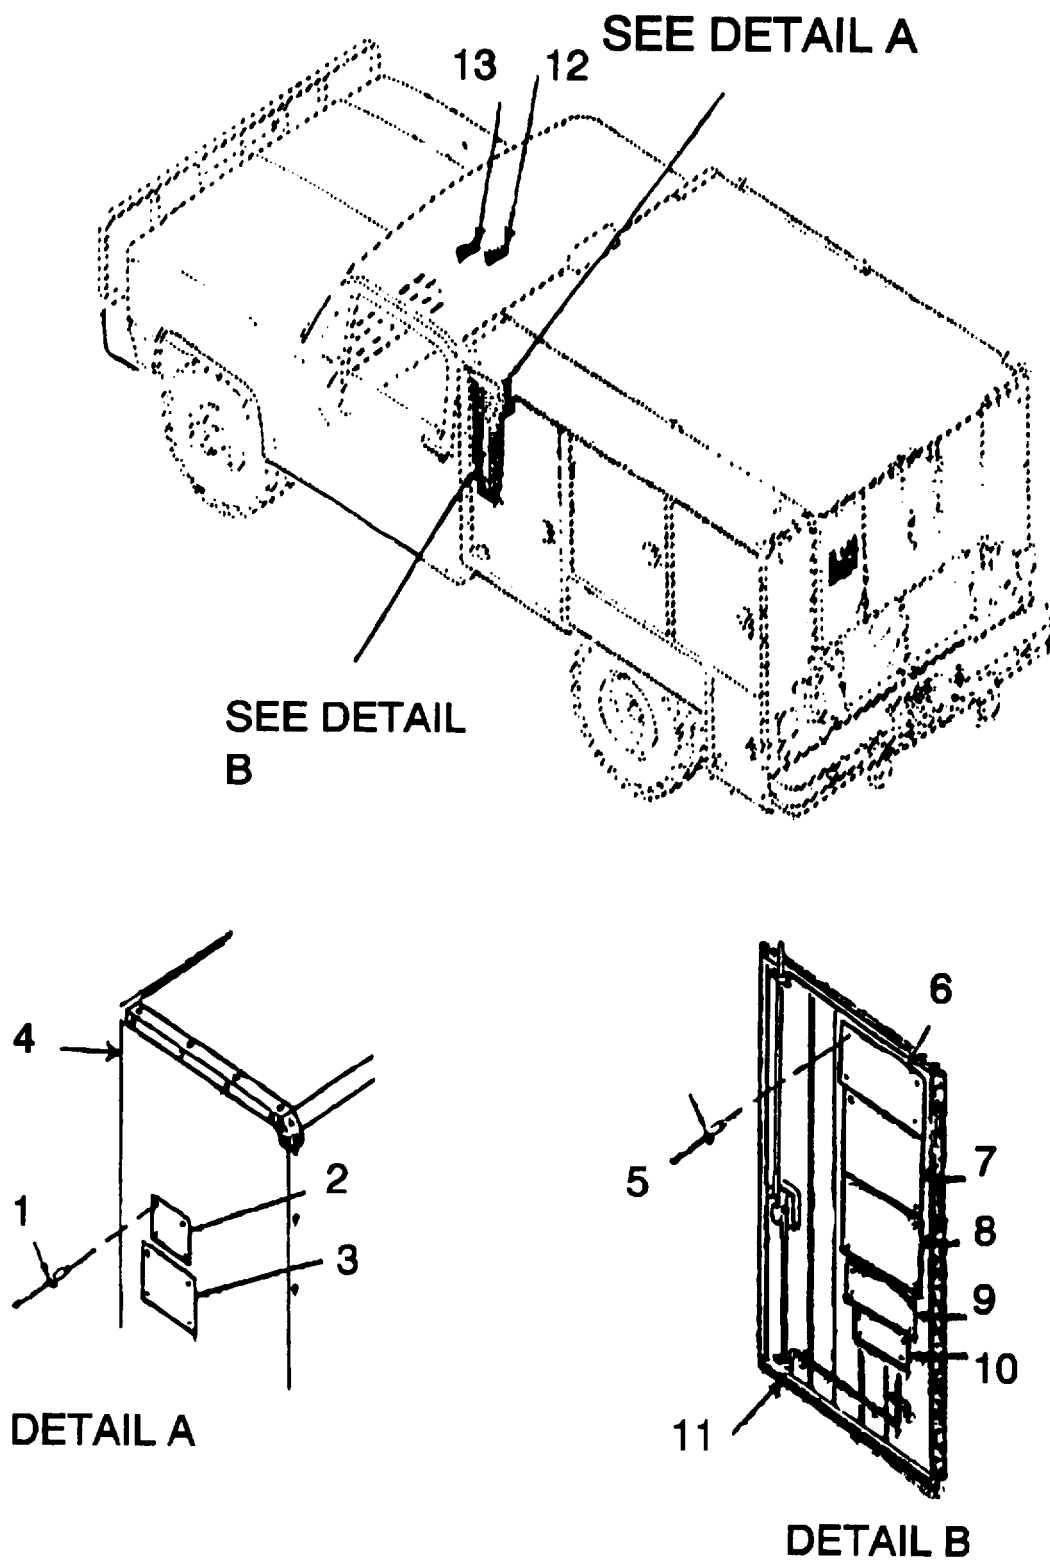

Figure 4-13. Information Plates, Removal/Installation.
a. **Removal.** (Refer to figure 4-13).
- (1) Remove eight rivets (1) by drilling out. Remove data plate (2) and information plate (3) from body (4).
- (2) Remove twenty rivets (5) by drilling out. Remove information plate (6), instruction plate (7), instruction plate (8), instruction plate (9), and caution plate (10) from door (11).
- (3) Carefully peel decal (12) and decal (13) from vehicle dashboard,